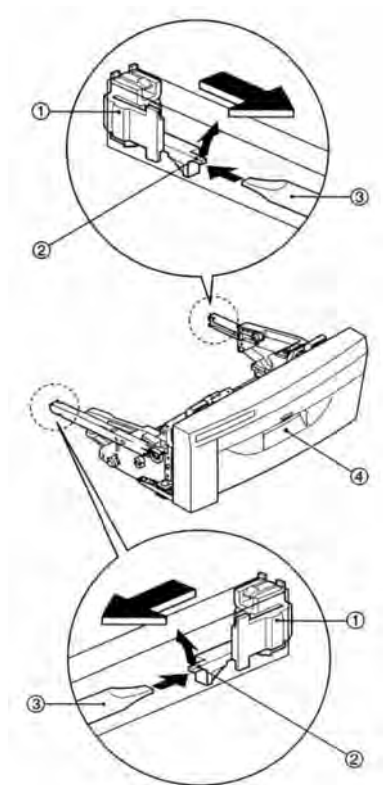
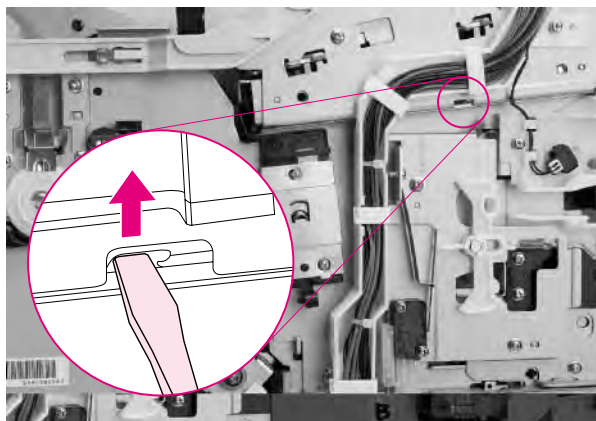

Figure 6-22 Drum drawer (top drawer) assembly removal and replacement (2 of 3)
Figure 6-23 Drum drawer assembly removal and replacement (3 of 3)
- 11** Slide a small flat-blade screwdriver under the black plastic retaining clips on the drawer guide rails. Then lift the tab and pull the drawer out slightly to clear the latch that holds the plastic retaining clips in place (see Figure 6-22 and Figure 6-23).